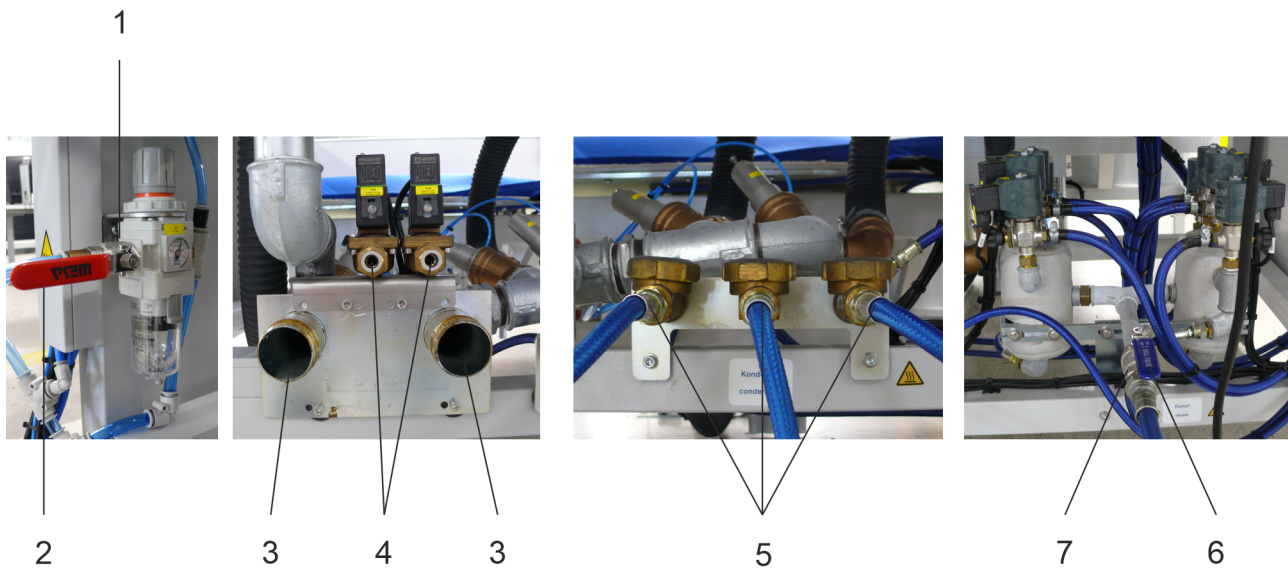

Fig. 12: Supply connections at the back of the machine
3. ➤ Press the button "Control system ON", ↗ *Further information on page 52, pos. 2.*
4. ➤ Open shut-off valve of the compressed-air "machine control" **slowly**, ↗ *Chapter 6.2 'Installation' on page 44, Fig. 12, Pos. 2.*
6. ➤ Open shut-off valve of the compressed-air supply "Blowing" at the customer's **slowly** (option), ↗ *Chapter 6.2 'Installation' on page 44, Fig. 12, pos. 4.*
8. ➤ Open shut-off valve for steam supply **slowly**, ↗ *Chapter 6.2 'Installation' on page 44, Fig. 12, pos. 6.*